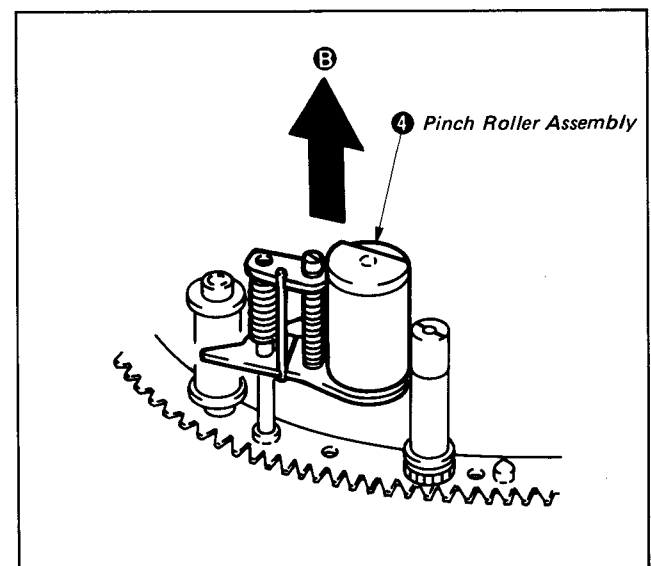

Fig. 1-20
- 5) Remove the pinch roller assembly ④ toward the arrow B. (See Fig. 1-20.)